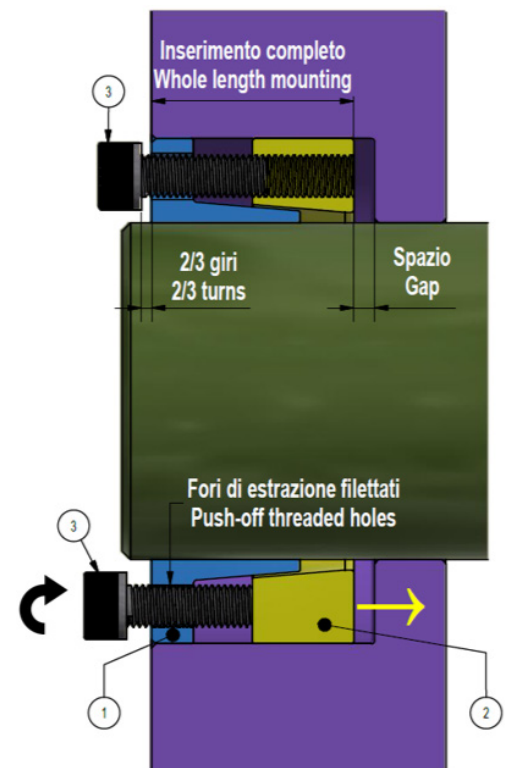

Fig. 2
2. For ease of installation, locking rings shall be disengaged (fig. 2). Loosen all screws by two/three turns; then transfer and hand-tighten at least two screws into the push-off threaded holes in the inner ring.
3. Insert Locking Assembly into the hub bore and make it slide onto the shaft, making sure that connected components are positioned as required. **Inner and outer rings shall be completely supported by shaft respectively hub bore (fig. 2). MAV 1062 shall be COMPLETELY (whole length) mounted inside of the hub bore (fig. 2),** to avoid bending of inner ring's flange. At this point, relocate the screws used to disengage the locking rings. Installation into hubs with shoulder requires a few mm's gap between outer ring and shoulder (fig. 2).